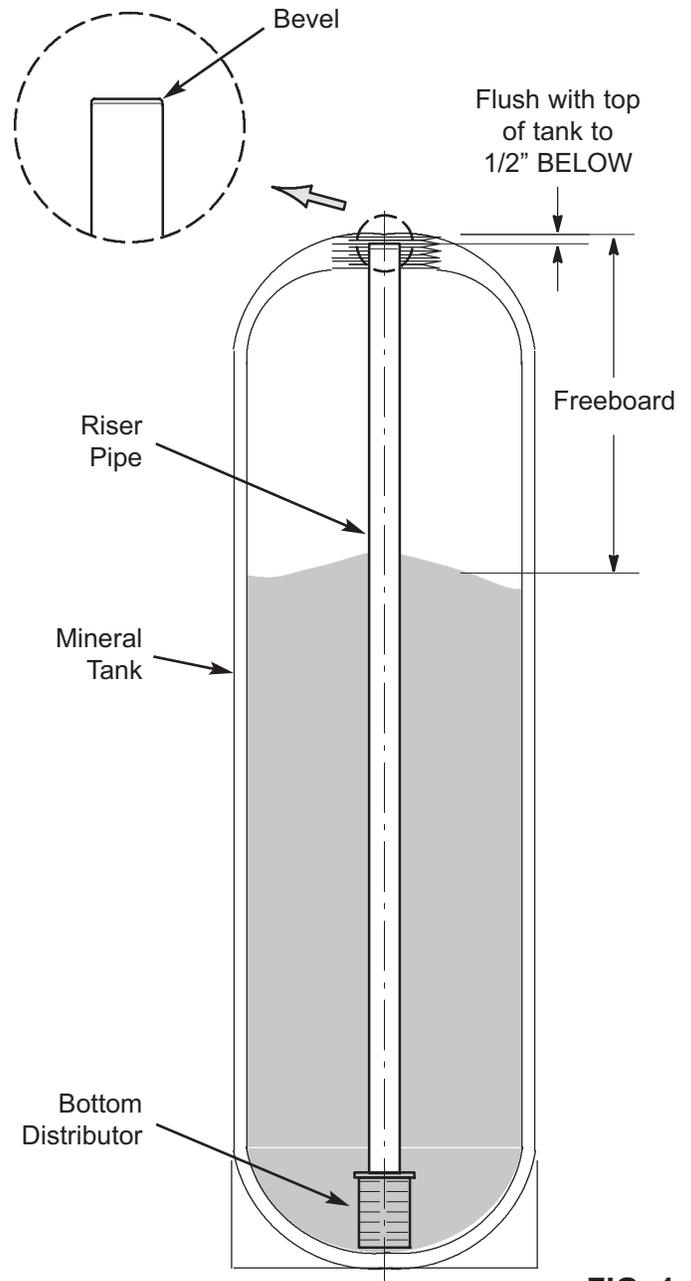

FIG. 1
2. On all models, place the bottom distributor into the resin tank and center it. Check the distributor length, as shown in Figure 1, and adjust it as needed. **It must be flush with to 1/2" BELOW the top of the tank.** Cut end square using a hacksaw or pipe cutter. Bevel the top edge and smooth with sandpaper or a file. Tip the distributor upside-down and tap gently to remove plastic shavings from inside.